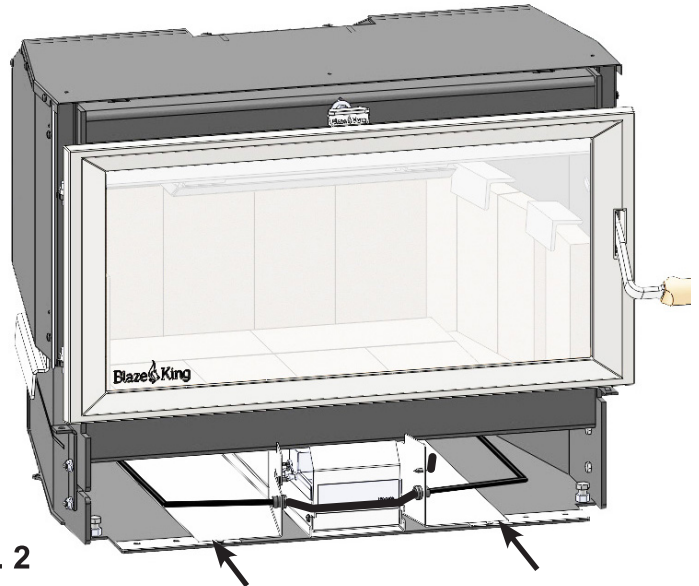

Fig. 2
3. Ensure fans have not shifted during transport and are in correct position, they should be in notch of fan mount guides. (Fig. 2)